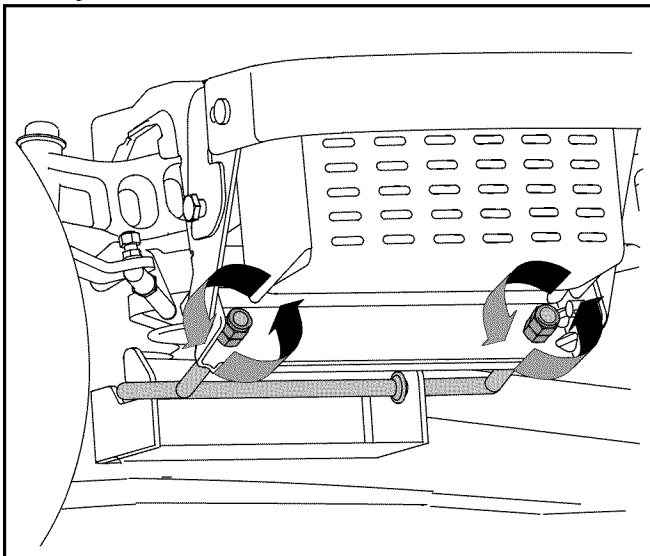

Figure 8
- From the front of the tractor, loosen the outermost hex lock nut on the end of the deck hanger rod. See Figure 8.
- Tighten the inner hex nut front against the front hanger bracket to raise the front of the deck; loosen the hex nut to lower the front of the deck. See Figure 8.